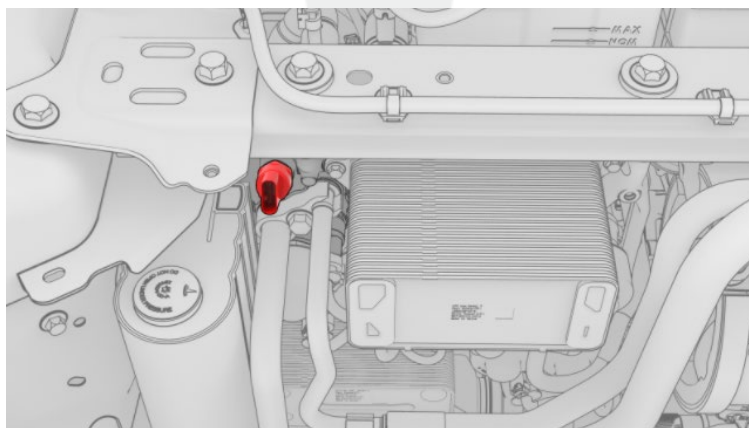

Figure 8
15. Use the HVAC socket kit special tool to remove the low pressure P/T sensor from the Supermanifold (Figure 8).
19. Install the new low pressure P/T sensor (brown connector) into the Supermanifold (Figure 8):